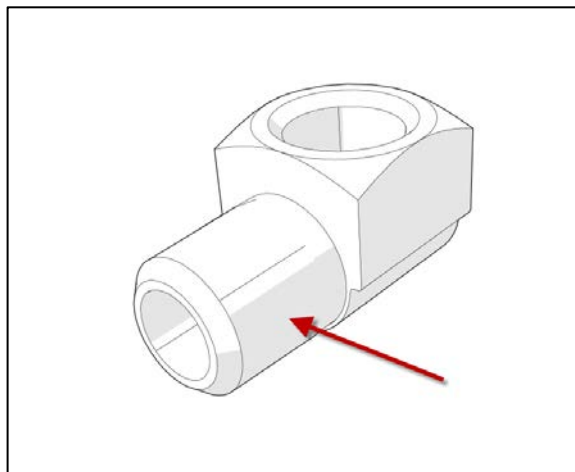

**Figure 5**
7. Apply Loctite 567 (Teflon) all around the threads of the new elbow #501332 (Figure 5).